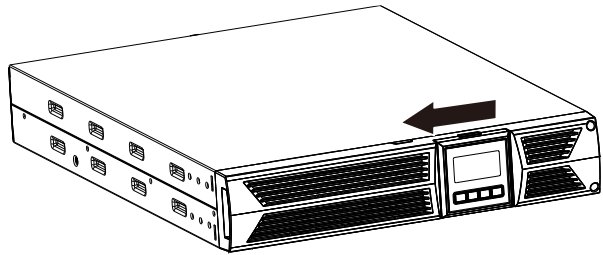

Figure 1.2
STEP 2: Slide and Pull the front panel leftward and then take it off (Figure 1.2).